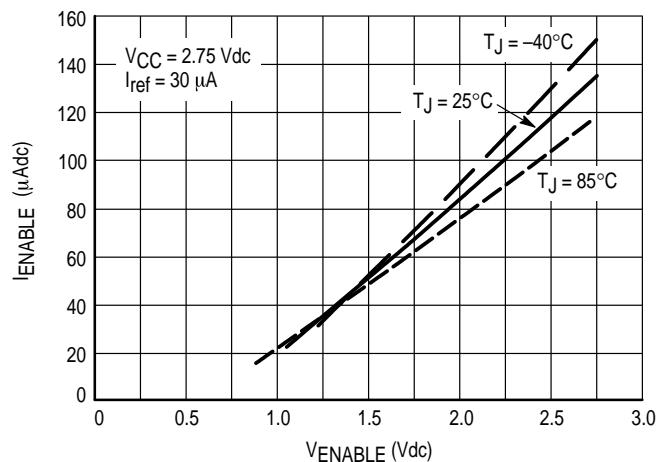

Figure 5. I_{enable} versus V_{enable}
- Step 2: Insure that Min $VENBL$ is \geq minimum indicated in Figures 5 and 6.